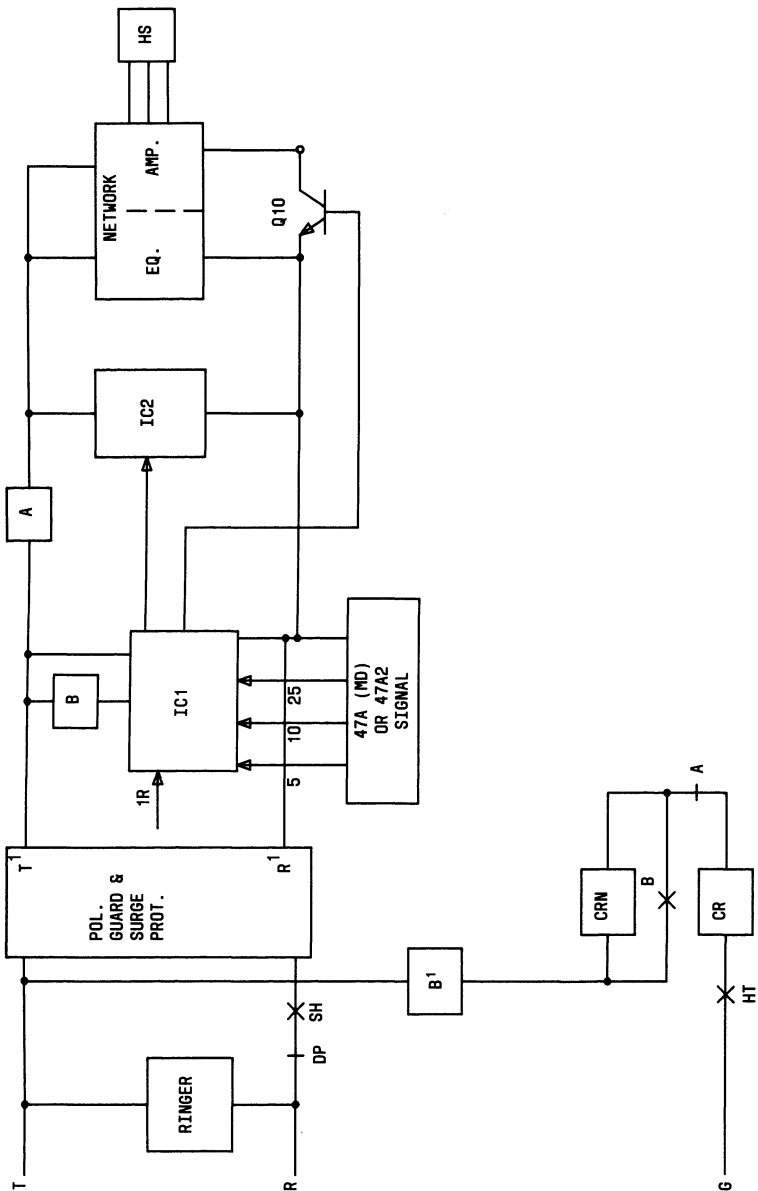

Fig. 1 — 1D1/2D1 Coin Telephone Set, Schematic
**2.01** Fig. 1 and 2 show block diagrams of rotary and TOUCH-TONE coin telephone sets, respectively. The 32A coin chassis includes an active network for speech equalization, the ringer, and a dual frequency coin tone oscillator. The front cover consists of a dial, switchhook, handset, and terminal board (TB2), which connects to the chassis via an 11-pin connector (J1). The 47A (MD) or 47A2 signal is attached to the side of the coin chute where coins are sensed as they leave the lower chute area. The 47A (MD) or 47A2 signal connects to the chassis via a 15-pin connector (J2).